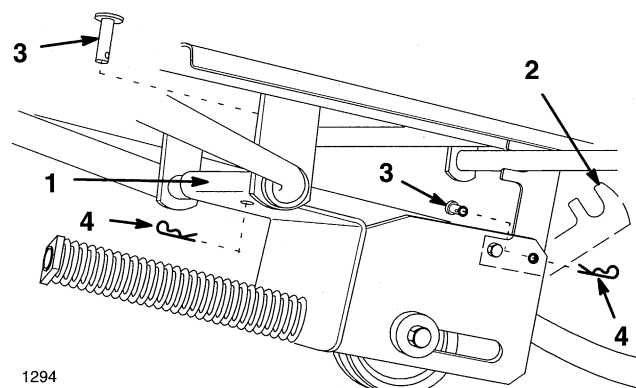

Figure 14
13. Hook idler pulley assembly rear hook onto tractor lift shaft. Rotate front latch hook up to engage cross shaft (Fig. 14).
14. Secure with clevis pins and hairpin cotters at rear hook and front latch hook (Fig. 14).